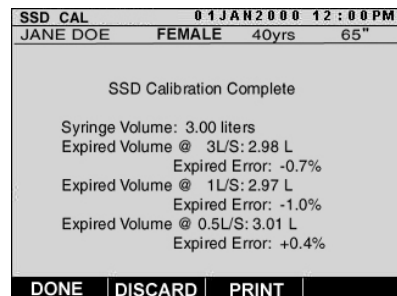

Figure 13: SSD CAL Complete
11. The final “SSD CAL” screen (Figure 13) will display the volume of the calibration syringe, the corrected measured volume and associated percentage error for each of the three flow rates indicated on the illustration.